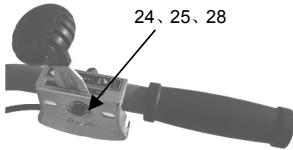

Figure 10
8. Refer to figure 10 to install the speed handle.